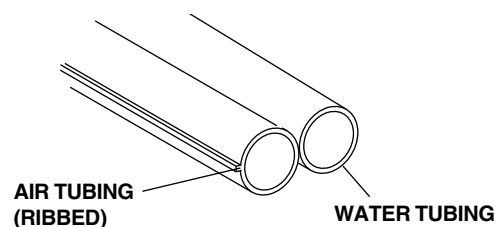

FIGURE 3
- A standard syringe has air and water tubings which must be separated (see Figure 3).
*A Low Voltage Water Heater with Heated Syringe Tubing has air and water tubings which have been separated at the factory and are similar to Figure 3. It also has two wires extending from the sheathing.*
- Slide a uni-clamp onto the syringe air tubing (*ribbed*, see Figures 3 and 4) and then install an inline barb to the tubing. Slide a uni-clamp onto the yellow tubing channeled through the tubing chase. Connect the yellow tubing to the syringe air tubing.
- Connect the syringe water tubing (*non-ribbed*, see Figures 3 and 4) to the red tubing channeled through the tubing chase.